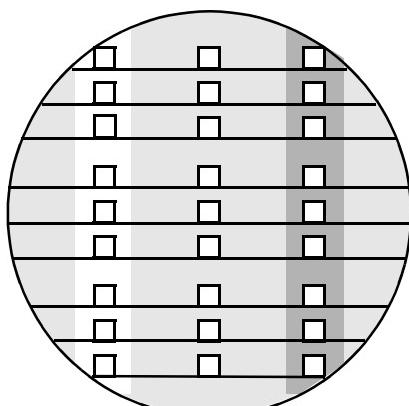

Fig.1b
- Cross off Plexi capillaries in Fig. 1b that are not visible.